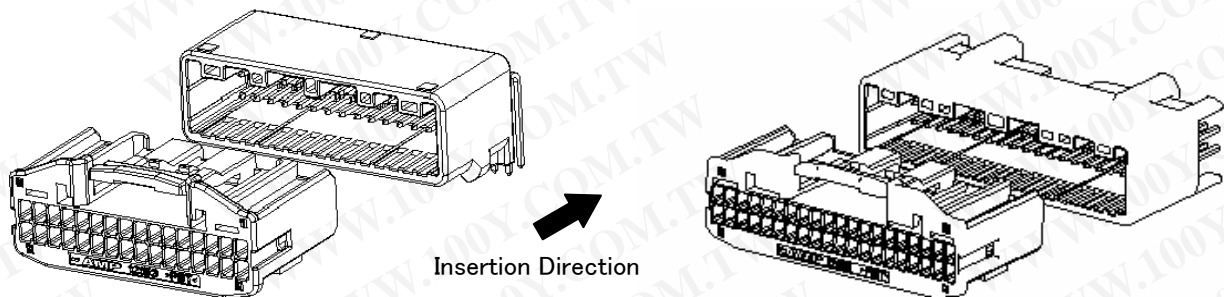

Fig.15
(3) Insert the proper female housing into the male housing straight with same direction as shown in Fig.15. The operation is finished when you hear the click sound and can not insert further. When you can not insert the housing, do not insert by force, and check the items in (1), (2).